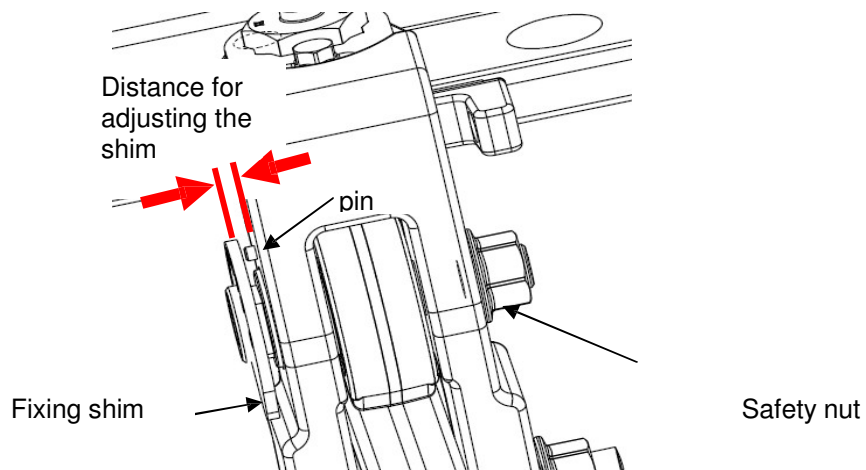
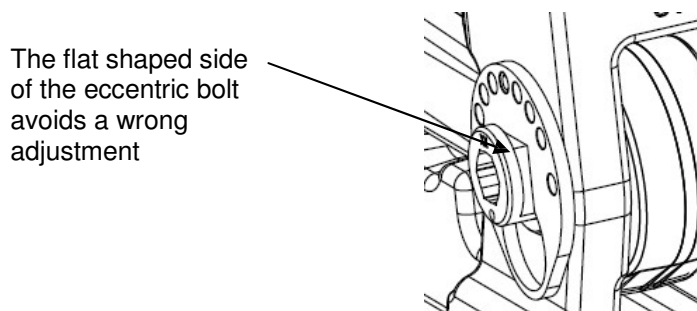

Fig. 9 Release of the eccentric bolt for adjustment of clamp length
Bild 10 Fine adjustment of the eccentric bolt
- Bolting of the eccentric bolt to be released, until the fixing shim is positioned outside of the interference of the cotter pin (Fig. 9)
- Adjustment of the clamp length by turning the eccentric bolt with Hexagon socket screw key 14 mm
- Fine adjustment to the next hole in the fixing shim (Fig. 10) and tightening the nut of the eccentric bolt